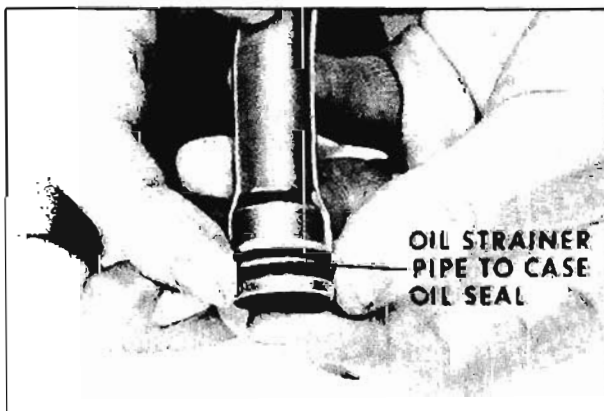

Fig. 6-258 Oil Strainer Pipe to Case Oil Seal
- 4. Examine oil strainer to case oil seal. If nicked, torn or worn, remove seal. (Fig. 6-258)